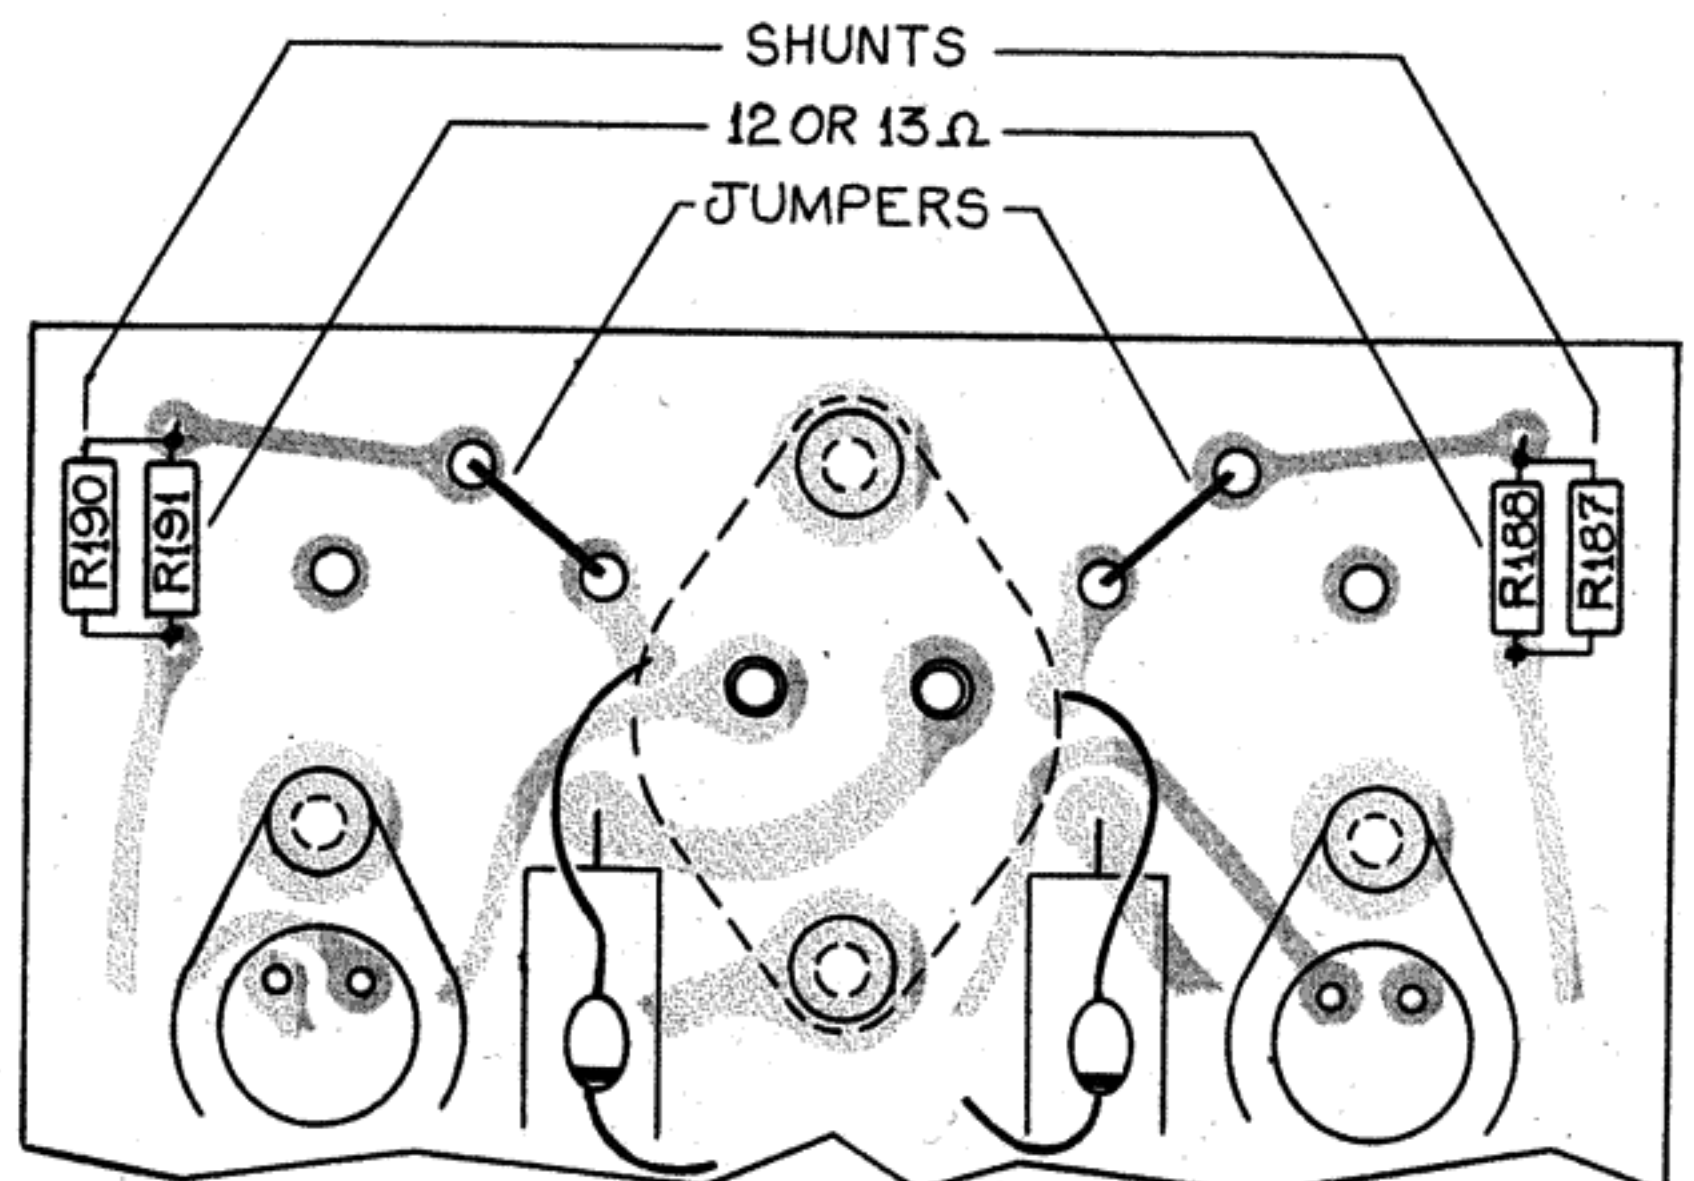

FIGURE 12
d. Power Supply: All small components are on a board, instead of the point-to-point wiring of the amp. (See Figure 12.)